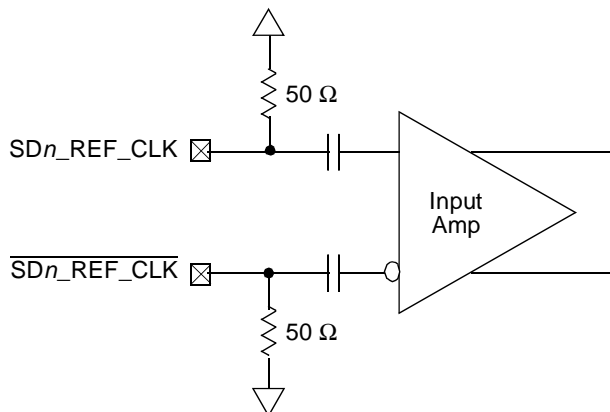

Figure 44. Receiver of SerDes Reference Clocks
Figure 44 shows a receiver reference diagram of the SerDes reference clocks. Characteristics are as follows:
- The $\overline{SDn_REF_CLK}$ and SDn_REF_CLK are internally AC-coupled differential inputs as shown in Figure 44. Each differential clock input ($\overline{SDn_REF_CLK}$ or SDn_REF_CLK) has on-chip 50- Ω termination to $SGND_SRDSn$ (xcovvss) followed by on-chip AC-coupling.